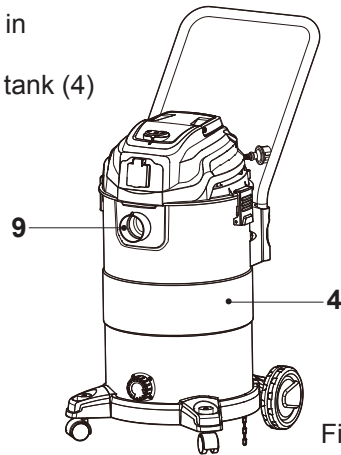

Fig. 26
- > During wet vacuuming, check the water level in the tank regularly. The water level should be below the air inlet (9) (Fig. 26). Empty the tank (4) regularly if large quantities of water are to be vacuumed.